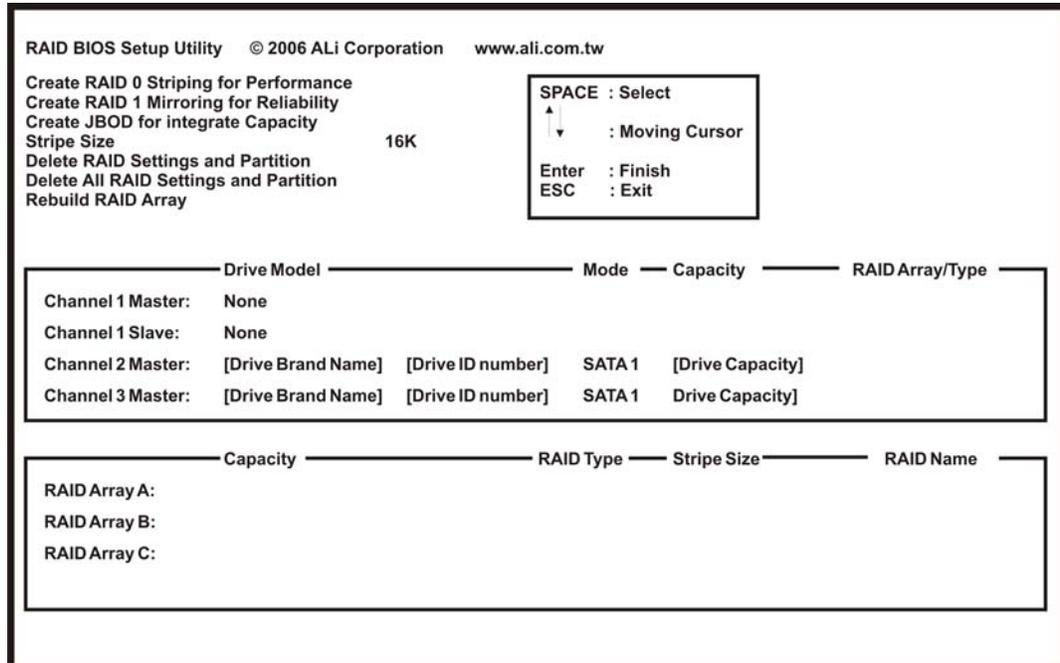

Figure F-2: RAID BIOS Setup Utility
- Step 9: Delete RAID settings and partitions.** The **RAID BIOS Setup Utility** in **Figure F-2** appears. Before configuring the array select the **"Delete All RAID Setting & Partition"**.
Step 10: Configure the RAID settings. Use the RAID BIOS Setup Utility in Figure F-2 to configure the RAID array. Brief descriptions are given below.